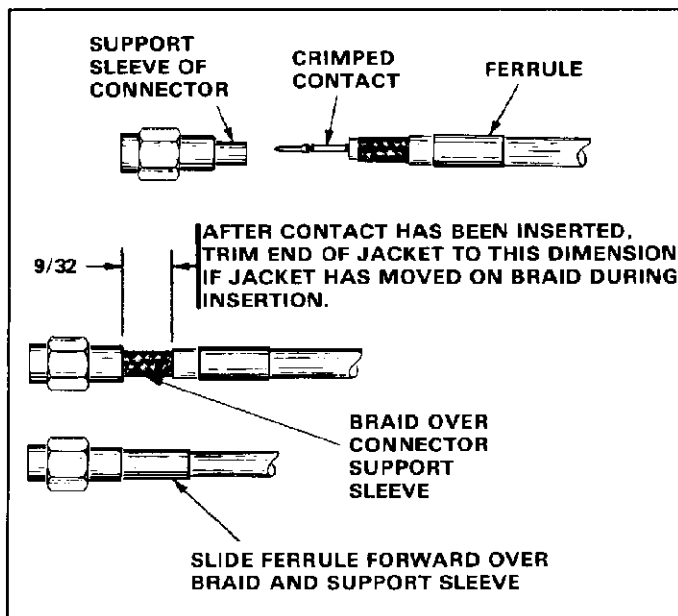
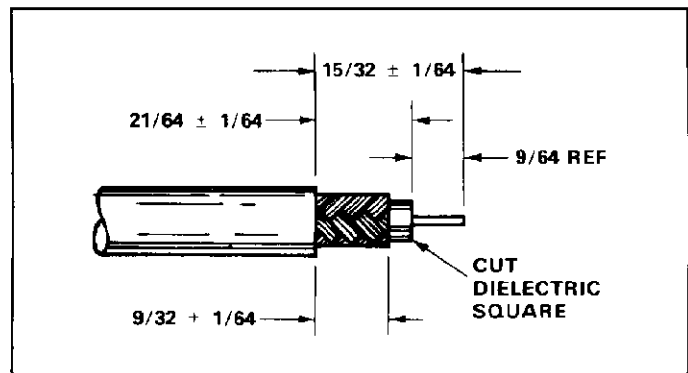

Fig. 2
Fig. 3
1. Slide ferrule onto cable as shown in Figure 2. Then strip the cable according to the dimensions shown in Figure 3.